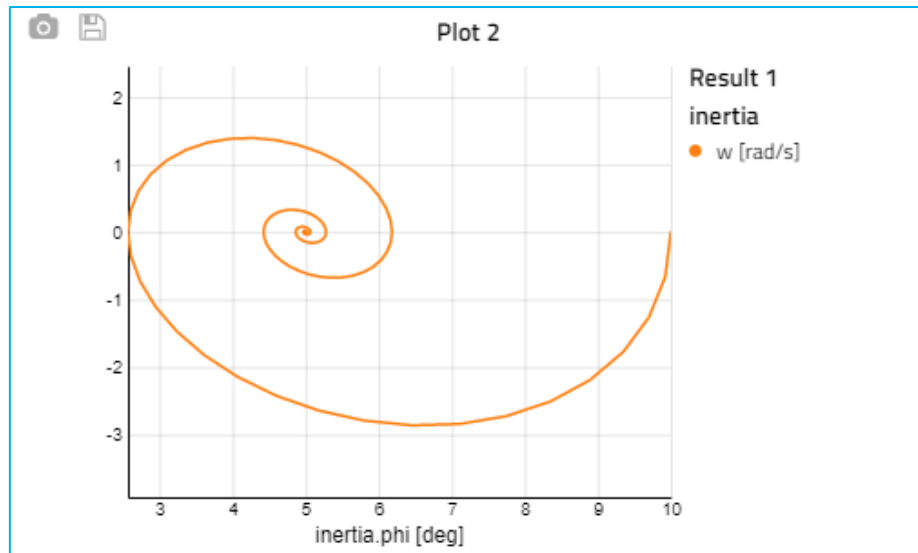

Figure 18 Phase-space diagram
- You should see a phase-space diagram similar to **Figure 18 Phase-space diagram**.